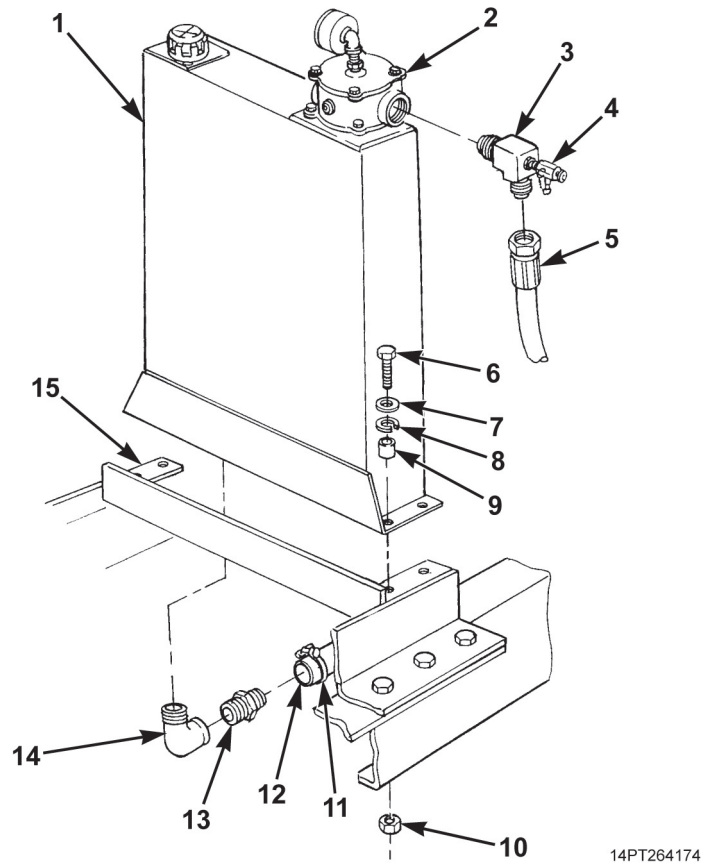

Figure 2. Hydraulic Reservoir Installation.
1. Attach a nylon sling and suitable lifting device to hydraulic reservoir (Figure 2, Item 1). Take up slack in sling.
2. Position hydraulic reservoir (Figure 2, Item 1) on cylinder support frame (Figure 2, Item 15).
3. Install four screws (Figure 2, Item 6), washers (Figure 2, Item 7), new lockwashers Figure 2, Item 8), spacers (Figure 2, Item 9), and new locknuts (Figure 2, Item 10). Torque locknuts to 100 to 110 lb-ft (136 to 149 N•m). Remove nylon sling.
4. Install elbow (Figure 2, Item 14) and hose barb (Figure 2, Item 13) on hydraulic reservoir (Figure 2, Item 1).
5. Connect suction hose (Figure 2, Item 12) to hose barb (Figure 2, Item 13) and tighten clamp (Figure 2, Item 11).
6. Install tee (Figure 2, Item 3) with oil sampling valve (Figure 2, Item 4) on filter housing (Figure 2, Item 2).
7. Connect hydraulic return hose (Figure 2, Item 5) to tee (Figure 2, Item 3).